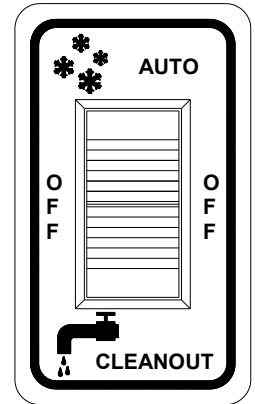
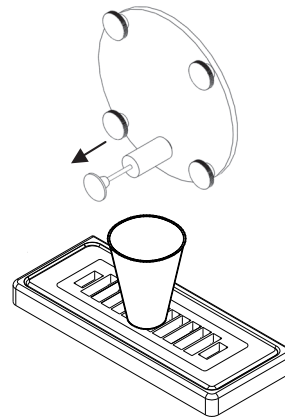

Fig. 6
Fig. 7
2. Set control switch (Fig. 6) to the “**CLEANOUT**” position and dispense all product from the freezing cylinder by pulling out on the spigot handle (Fig. 7) to empty the machine.
3. Set each control switch to the “**OFF**” (center) position. Close the spigot handle(s) (Fig. 7) before proceeding to cleaning.